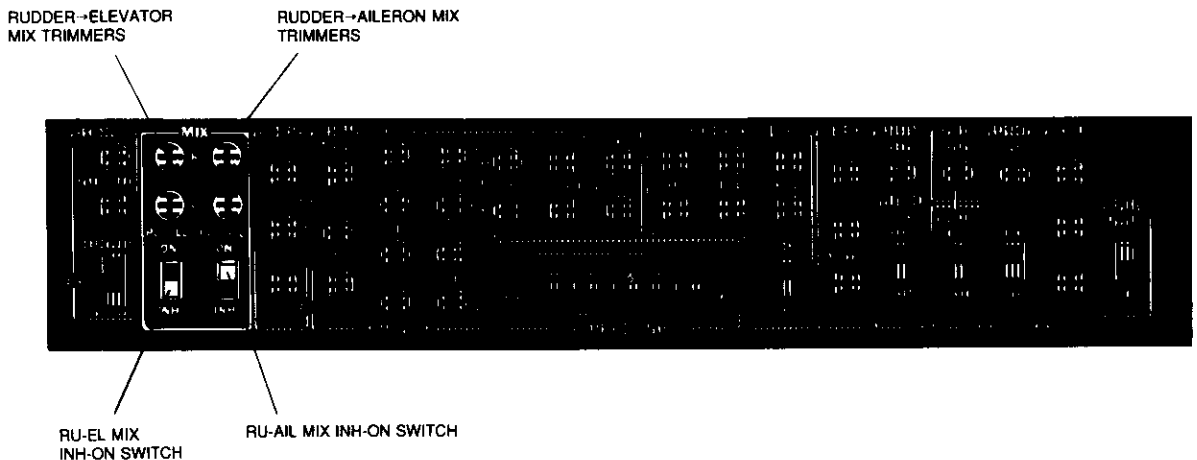

FIGURE 19
The Quantum PCM 8P transmitter provides for rudder→aileron mixing when the RUD→AIL MIX switch (26) on the upper front left of the transmitter is in the "ON" position. Mixing of the aileron control with operation of the rudder control is useful in certain aerobatic maneuvers such as knife edge flight. The amount and direction of the mixing is determined by the associated RU-AIL trimmers located under the front panel trimmer cover. To obtain rudder→aileron mixing the RU-AIL Mix "INH-ON" switch must be in the "ON" position, L and R trimmers adjusted, (Figure 19), and RUD→AIL Mix switch (26) be in the "ON" position. The RU→AIL Mix L.E.D. will blink rapidly when the RUD→AIL switch (26) is in the "ON" position.
The Rudder→Elevator mixing function use and adjustments are similar to that addressed above for Rudder→Aileron mixing. To activate RUD→ELE mixing, switch (26) must be in the "ON" position and the RU→EL mix "INH-ON" switch on the trimmer panel, Figure 19, be placed in the "ON" position. Adjust the associated RU→EL trimmers above the switch for the amount of elevator up or down correction required for the specific maneuver. The upper trimmer is associated with right rudder and the lower with a left rudder stick command. The RU→EL mix L.E.D. will blink rapidly when the RUD→ELE switch is in the "ON" position. To completely disable mixing action, place the RU-EL mix "INH-ON" switch in the INHIBIT position.